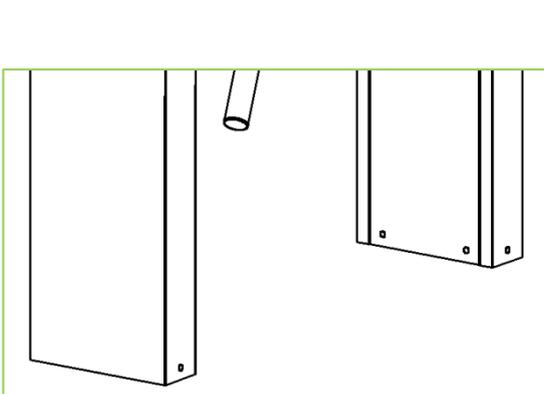
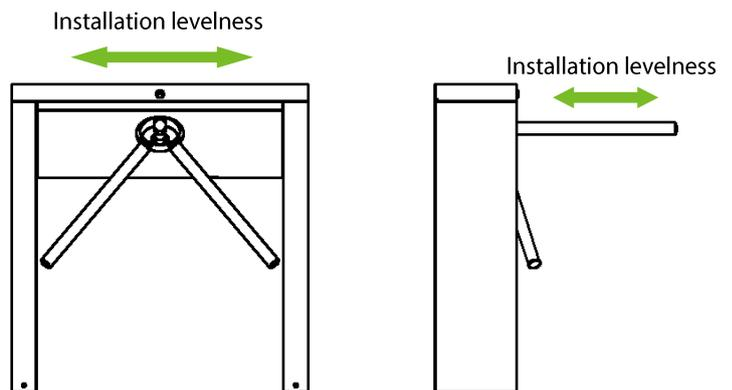

Figure 3-4
Figure 3-5
3. Put the turnstile on two mounting plates and tighten the screws on the bottom of column, as shown in figure 3-4. Adjust the direction of the turnstile, as shown in figure 3-5.